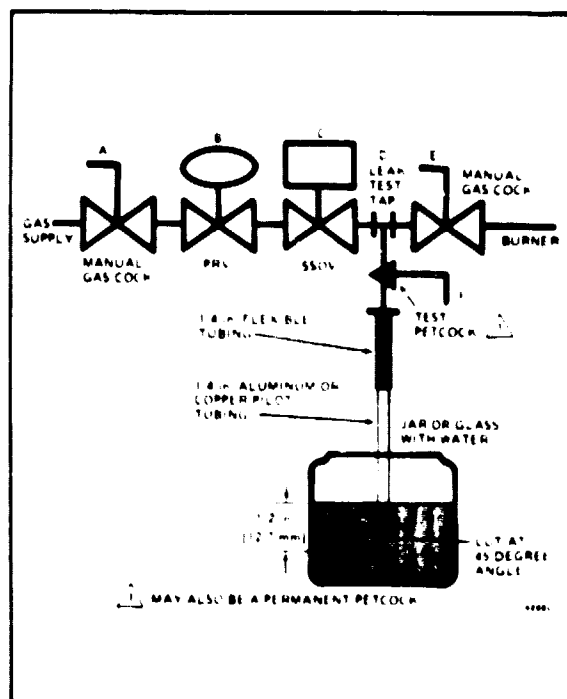

FIG. 7-VALVE LEAK TEST.
## VALVE LEAK TEST (FIG. 7)
1. De-energize the control system to ensure that there is no power to the safety shutoff valve (C), shown in Fig. 7.
2. Close the upstream manual gas cock (A).
3. Make sure the manual test petcock (F) is closed in the leak test tap assembly (D).
4. Remove the leak test tap plug and connect the test apparatus to the Leak Test Tap (D).
5. Close the downstream manual gas cock (E).
6. Open the upstream manual gas cock (A).
7. Run the safety shutoff valve (C) to its fully open position (through the safety system); then immediately de-energize the system to close the valve.
9. Slowly open the test petcock (F).